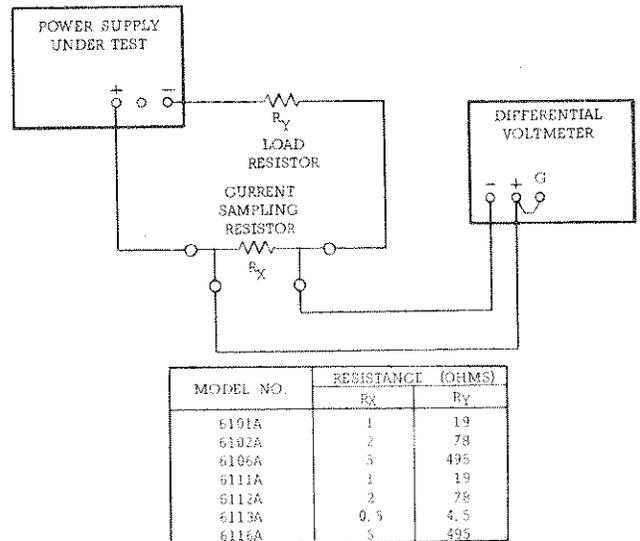

Figure 5-4. Output Current, Test Setup
- a. Connect test setup shown in Figure 5-4.